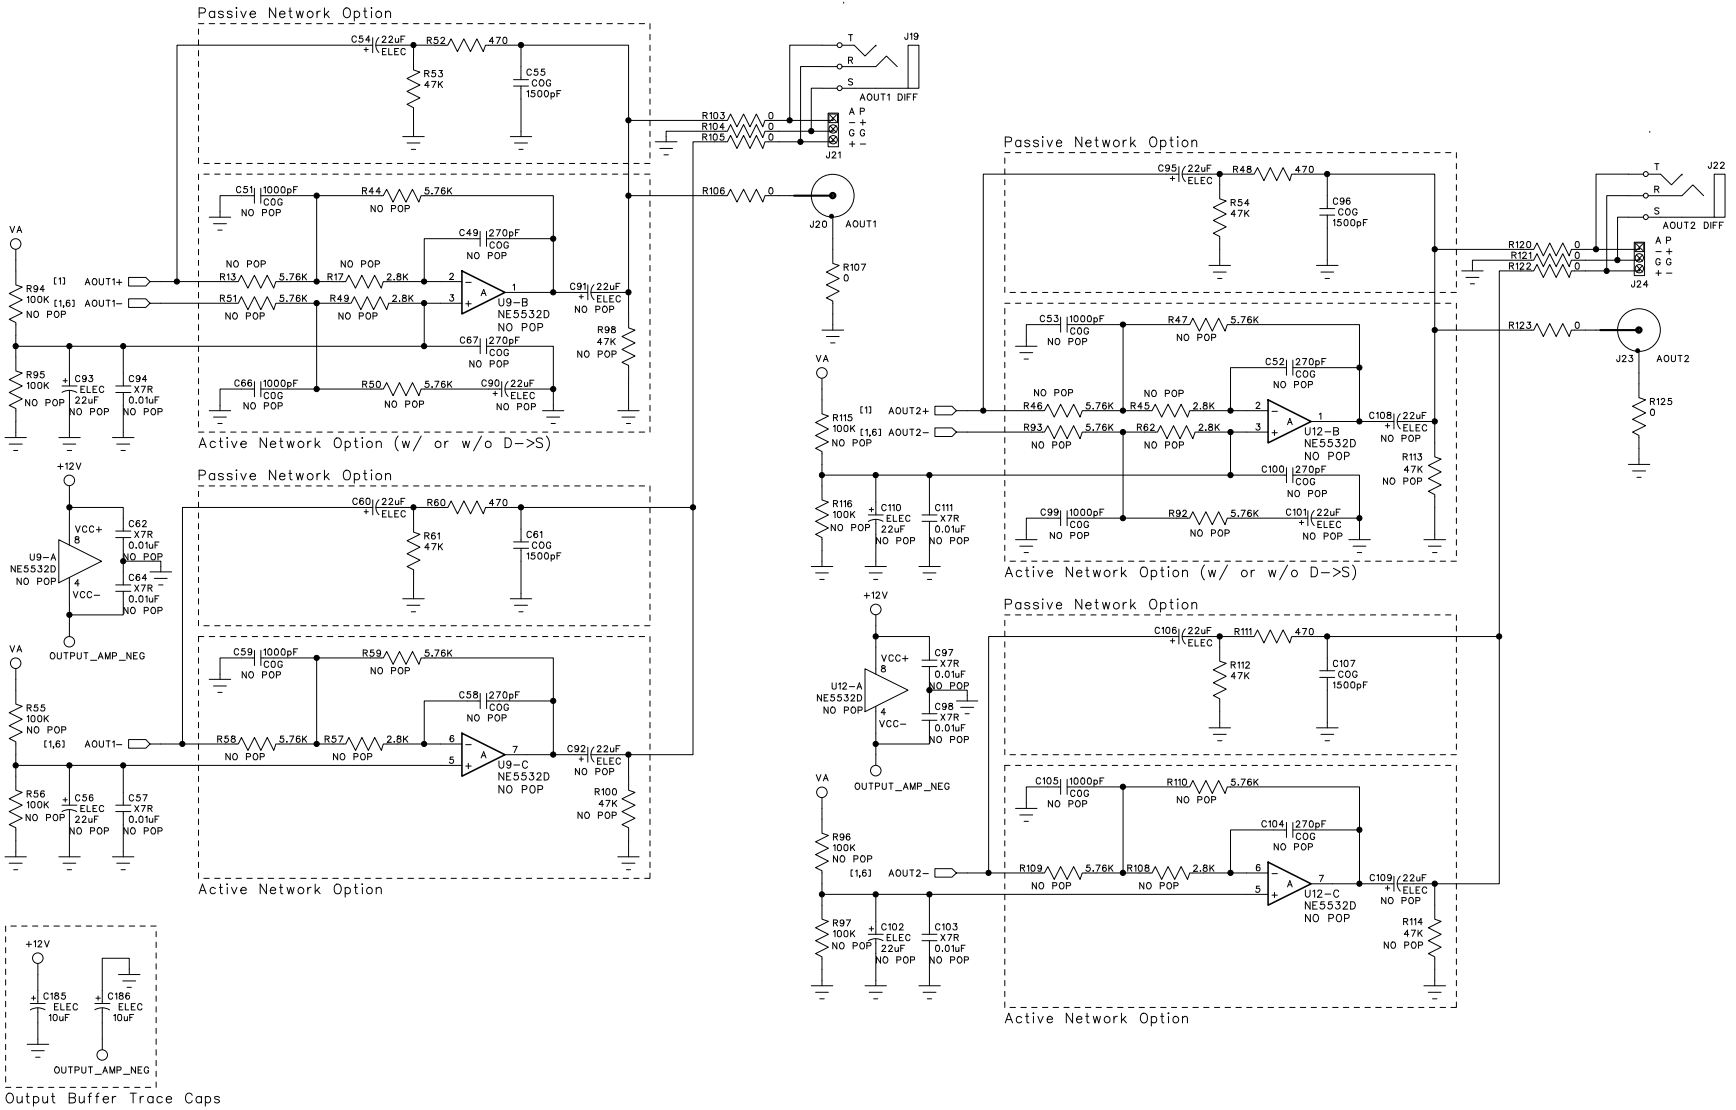

Figure 15. Analog Output Channels 1 & 2 (Schematic Sheet 6)
8. When using an optional single-ended output filter, the single pin labelled “+” and “-” under the “A” and “P” columns respectively is ignored. This connectivity is shown in Figure 15 on page 28 and Figure 16 on page 29.